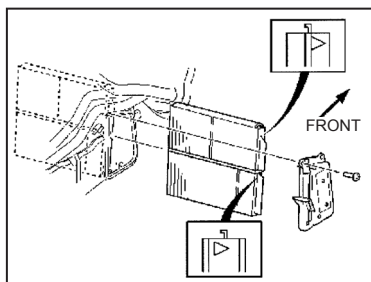

Fig. 2
9. Remove cabin air filter cover retaining screw and cover. (See Fig. 2)